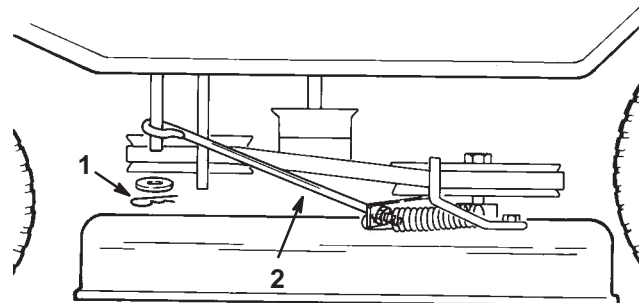

Figure 35
11. Remove the hairpin cotter and washer from the blade control arm on the left side of the mower (Fig. 35).